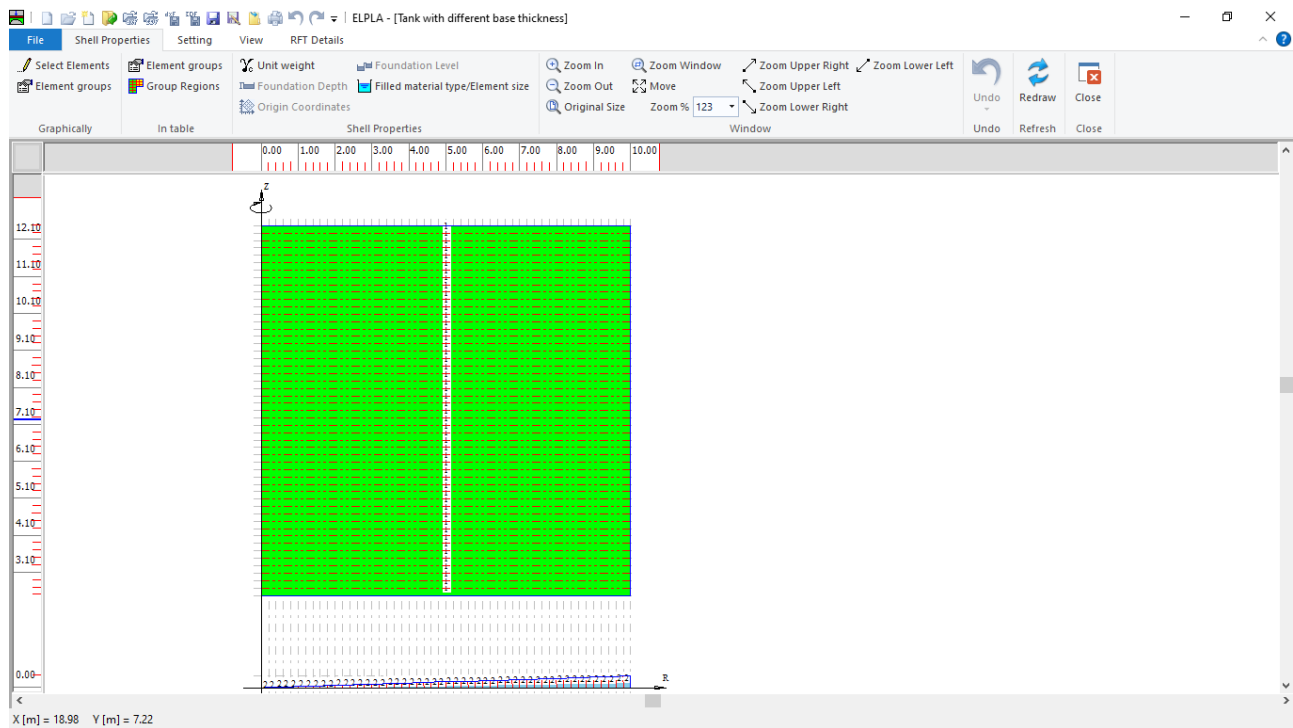
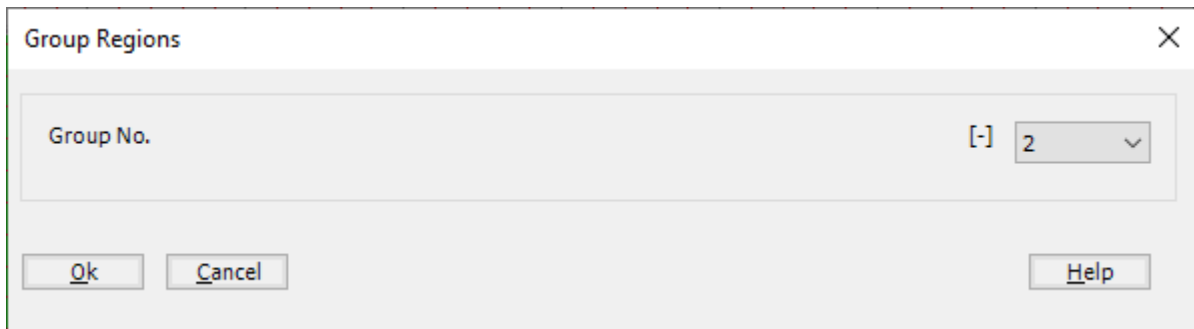
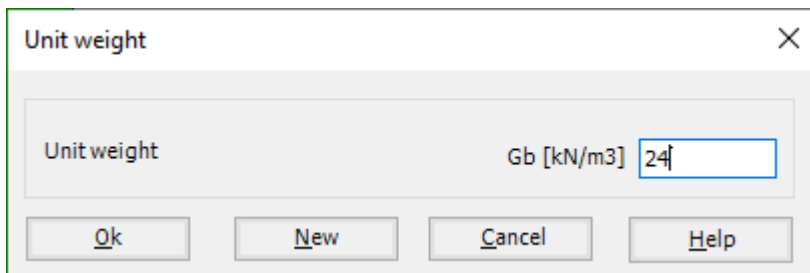

Figure 9.12 "Shell Properties" Window
Figure 9.15 "Group Regions" dialog box
Figure 9.16 "Unit weight" dialog box
To define the tank properties, choose "Shell Properties" command from "Data" Tab. The following window in Figure 9.12 appears with default shell properties. The data of shell properties for the current example, which are required to be defined, are element groups, group regions, unit weight of the tank, and the filled material properties.
- Choose "Select Elements" command from "Graphically" menu in the window of Figure 9.12.
- Choose "Elements Groups" command from "Graphically" menu in the window of Figure 9.12, "Group Regions" dialog box Figure 9.15 appears
To enter the unit weight of the tank, choose "Unit weight" command from "Shell Properties" menu in Figure 9.12. The following dialog box in Figure 9.16 with a default unit weight of 25 [kN/m3] appears, type 24 in the "Unit Weight" edit box, then click "OK" button.
To define the filled material properties of the shell, choose "Filled material type/Element size" command from "Shell Properties" menu in Figure 9.12. The following form in Figure 9.17 appears.